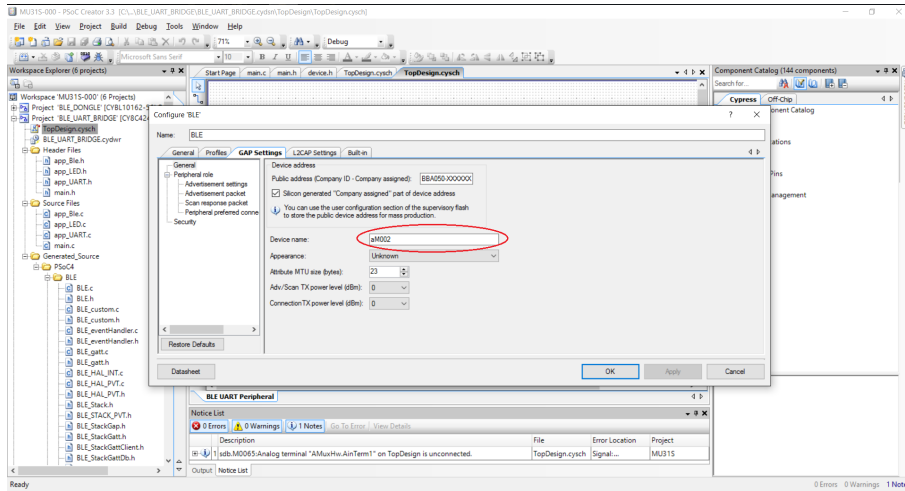

Figure 1.3: Setting the BLE device name
1. Modify the project to define aMussel ID. To do so, open TopDesign.cysch and double click on BLE module. Go to GAP Settings > General and enter aMussel ID in Device Name field (see Figure 1.3). Naming convention is as follows: 'aMXXX', where 'XXX' represents aMussel ID in range [000 – 999], e.g. 'aM001', 'aM023' ...